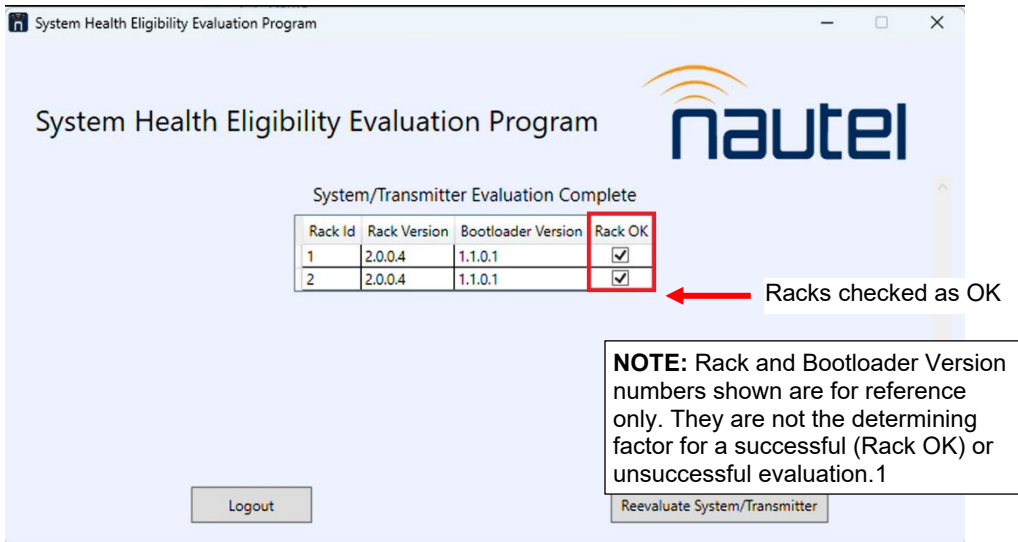

Figure 4: SHEEP successful completion screen
- (i) When the evaluation is complete, an information prompt will appear to verify that the AUI is not reporting any alarms before attempting to RF on. If any new alarms are present that were not present in step (d), you will need to cycle (off, then on) the transmitter's ac power. Click **OK** on this prompt to view the evaluation results. Figure 4 shows the completion of a successful evaluation, including the rack and bootloader versions for each rack, plus checkmarks to indicate that the racks (and transmitter) are eligible for software upgrade.